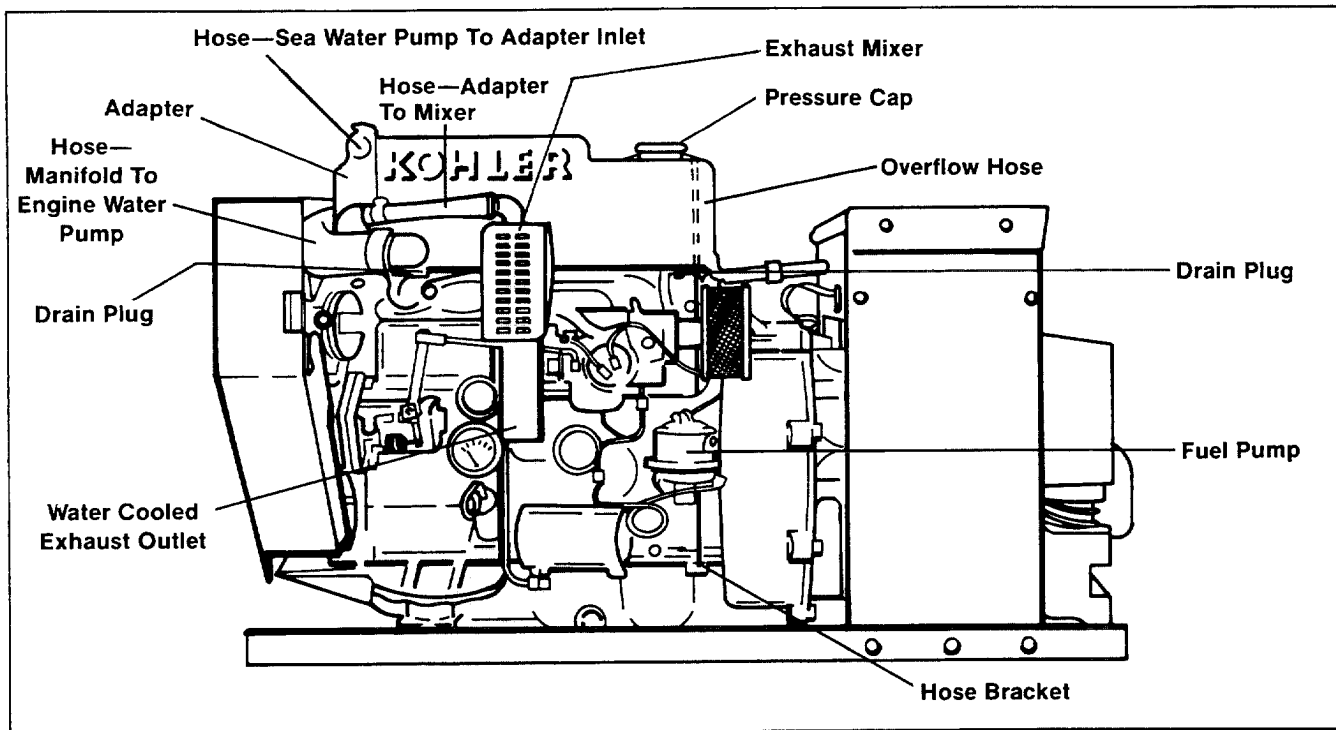

Figure 2. Side View—Heat Exchange System
5. Attach overflow hose to the overflow tube of the manifold adapter. Route the hose along the side of the manifold and behind the fuel pump. At this point the overflow hose should be routed through the overflow hose bracket. To mount the bracket, remove the oil pan screw directly beneath the fuel pump. See Figure 2. Align the smaller hole of the bracket with the pan screw shaft. Replace screw and torque to 150 in. lbs.